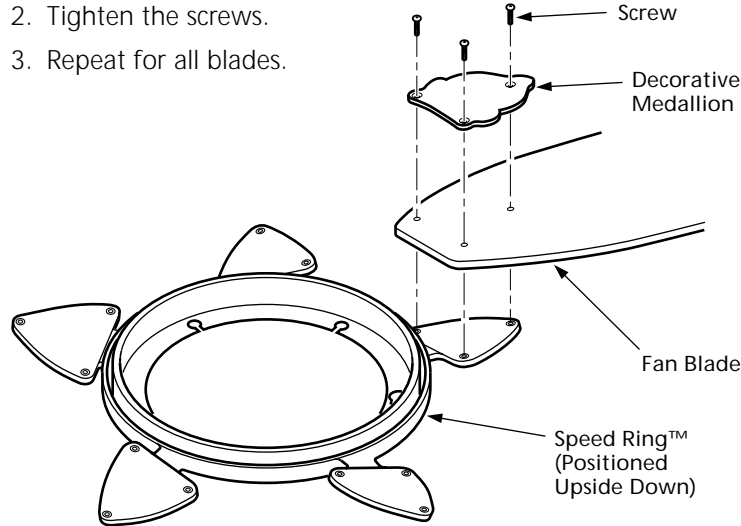

Figure 6a - Attaching Fan Blade to Speed Ring™ Using Decorative Medallion (Speed Ring™ Positioned Upside Down)
1. Position the blade, medallion, and Speed Ring™ and insert three #8-32 x 1/2" oval-head Phillips screws as shown in Figure 6a. (Hunter Fans use several types of decorative medallions.)